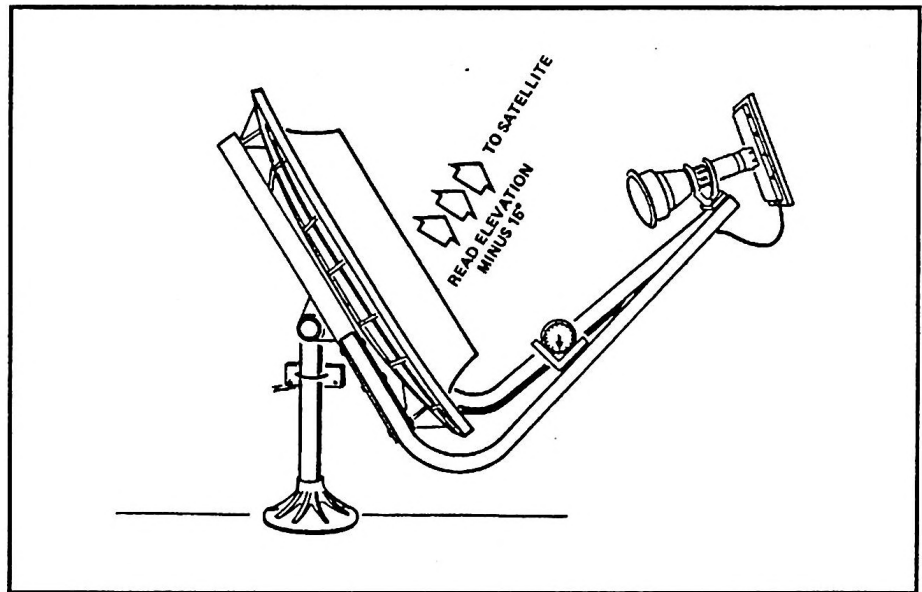

Figure 5-7. Elevation Adjustment, Boom Low
4. Swing the boom to the required angle and alternately tighten the hex bolts in pillow joint clamp. Figures 5-7 and 5-8 illustrate the method for setting the elevation adjustments for BOOM LOW and BOOM HIGH, respectively.
2. Set the inclinometer on the antenna boom to measure elevation angle. See Figures 5-7 and 5-8. Adjust the elevation to the proper satellite elevation angle.